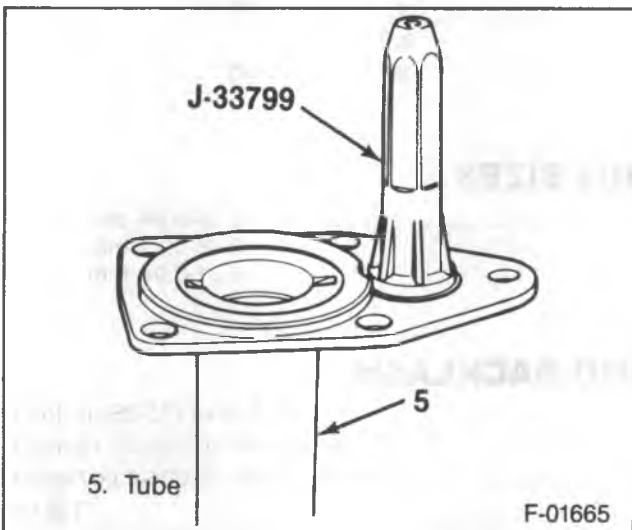

Figure 32—Installing the Shift Housing Seal
- Seal (15). Use J 33799 (figure 32).